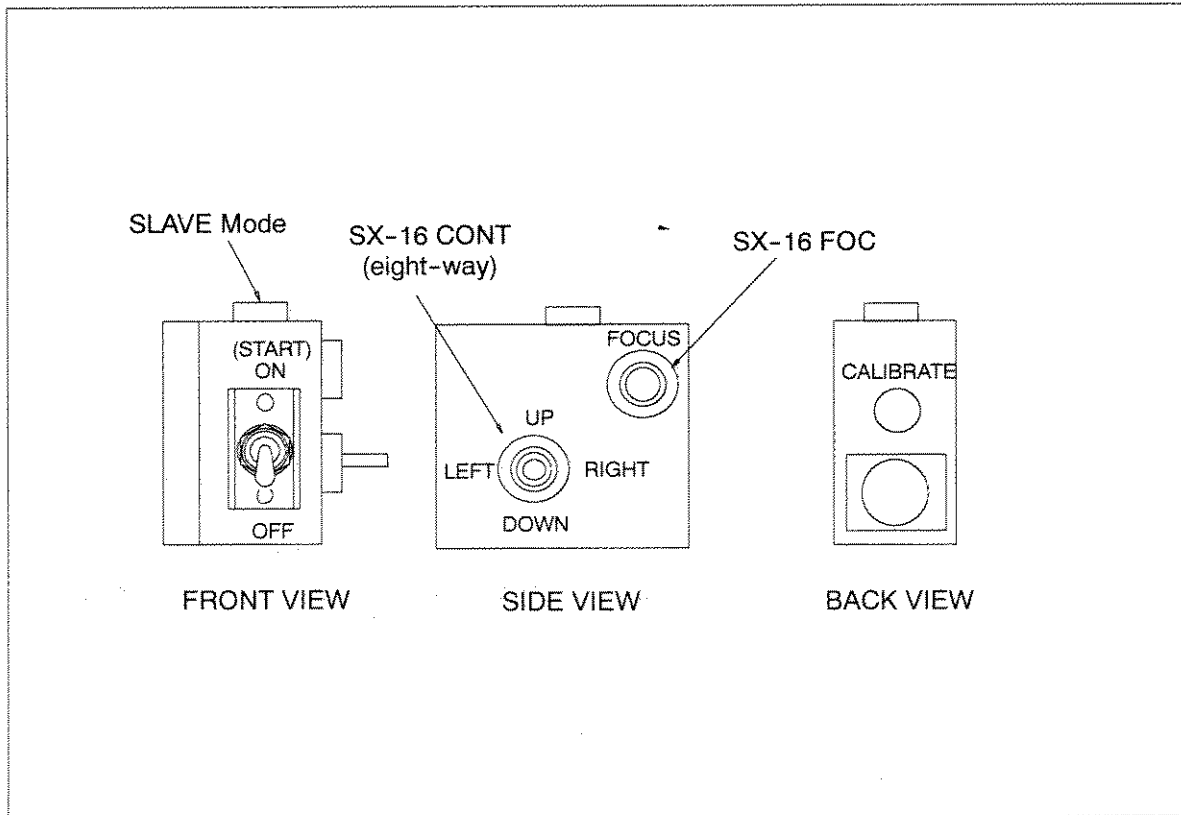

Figure 2 Operator's Hand Control
(a) Operator Hand Control - (refer to Figure 2)
(1) Switching System ON
- (a) Operator Hand Control (only) - (refer to Figure 2)
(2) Focus and Position
- (a) Operator Hand Control - (refer to Figure 2)
(3) Switching System OFF